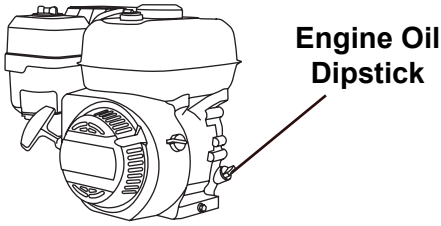

Fig. 20
2. Unscrew the engine oil dipstick (Fig. 20), remove it and wipe the dipstick clean.